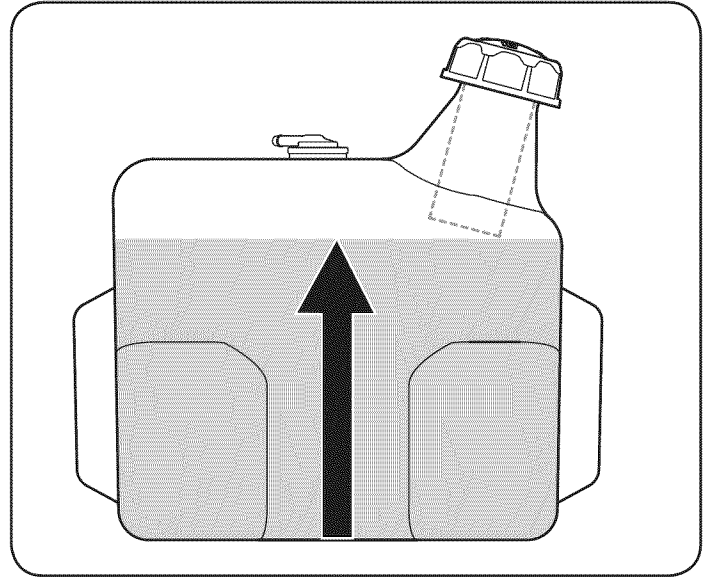

Figure 7
**IMPORTANT:** Do not overfill the tank. Fill tank to no more than 1/2 inch below bottom of filler neck to allow space for fuel expansion. See Fig. 7.